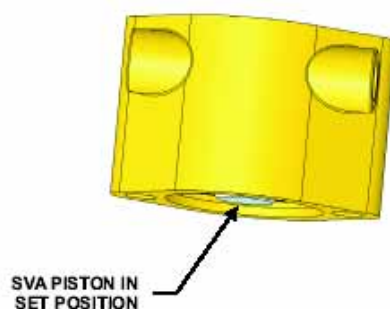

Figure 4-12. SVA in 'Set' Position
4. Ensure the Spring Loaded Plunger of the SVA is in the 'Set' position. See Figure 4-12.